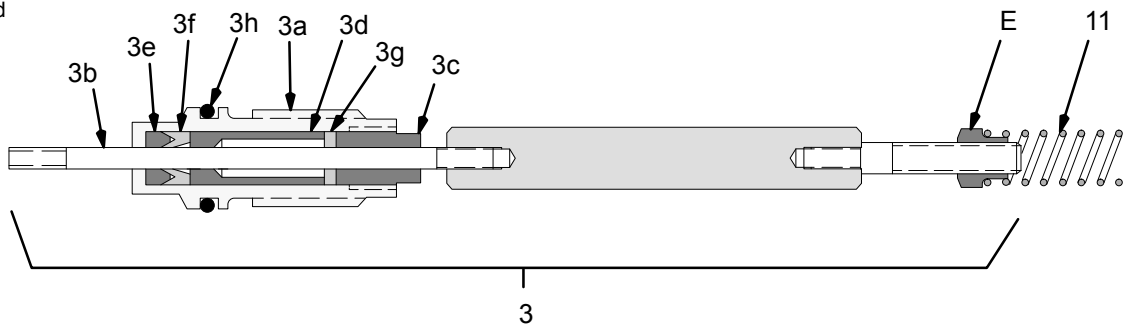

Fig 22
5. *If the parts are purchased separately*, assemble them as instructed in steps 6 to 9 and as shown in Fig 22.
7. Fill the entire inner cavity of the spacer (3d) with the dielectric grease included with the gun. Place the spacer on the fluid rod (3b), in the direction shown in Fig 22. Generously apply the grease to the outside of the spacer.
8. Place the fluid packing (3f), rod packing (3e), and housing (3a) on the fluid rod (3b) as shown in Fig 22 .
11. Install the fluid packing rod assembly (3) into the gun barrel. Using the 9 mm hex nut driver (45), tighten the assembly until just snug, then check the drag on the fluid rod.
12. Make sure the spring (11) is installed on the nut (E) as shown in Fig 22 .